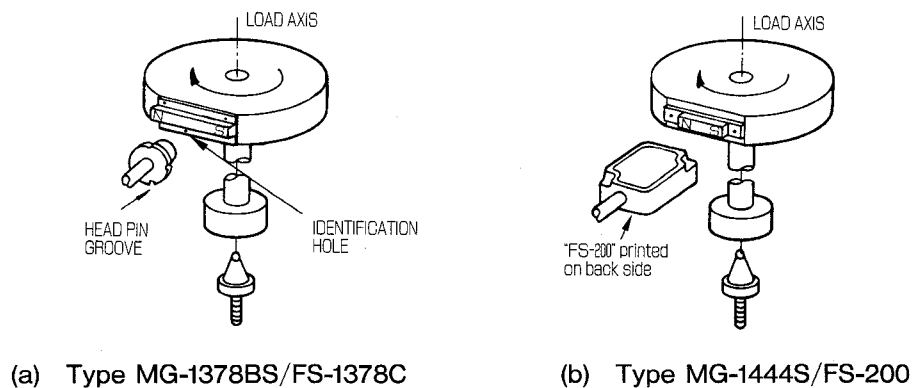

Fig. 5.10 Magneto and Magnetic Sensor Mounting Direction
- (6) Cable length between the magnetic sensor amplifier and the orientation card must be 20 meters or shorter.
- (7) The magneto and the magnetic sensor must be mounted with the poles in proper position as shown in Fig. 5.10. If the polarity is reversed, however, control is possible by reversing the signals in the orientation card.